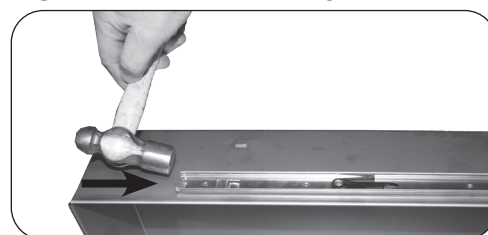

Fig. 4-4 Reinstall runners
3. Align each runner over the alternate notches and use the hammer to gently tap into place (see Fig. 4-4).